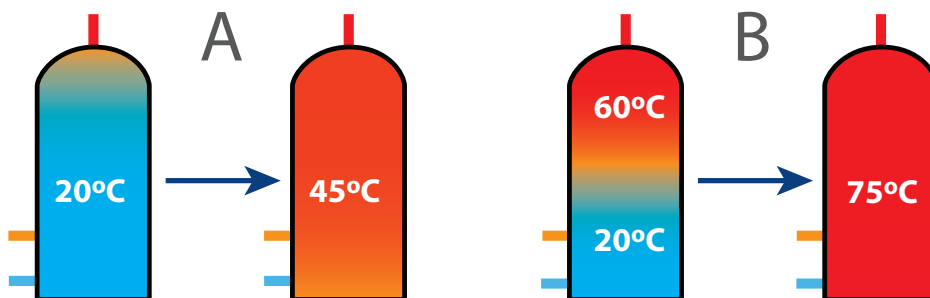

Fig. 1.4.1
Figure 1.4.1 shows the comparison between (A) solar heating a tank full of cold water (after lots of showers), or (B) a tank after a couple of showers. The same amount of solar input results in very different final temperatures. This is important to understand when considering the expected performance from your solar water heating system.